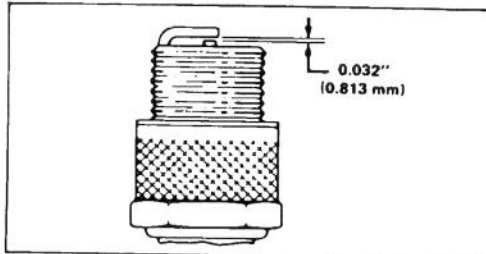

Figure 17
3. INSTALL SPARK PLUG – Set air gap (Fig. 17) between electrodes at .032" (.81 mm). Install plug and tighten to 15 ft-lb (20.4 N.m). If torque wrench is not used, tighten plug firmly. Push wire onto spark plug and reinstall control panel.